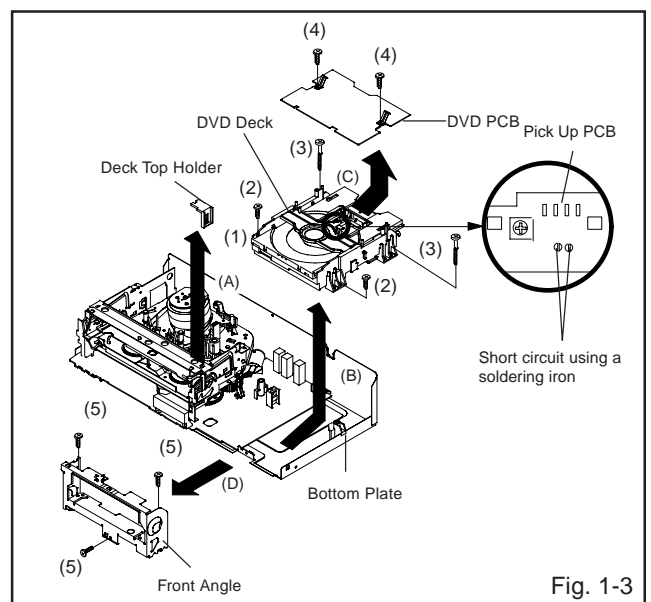

Fig. 1-3
1-3: DVD DECK/DVD PCB (Refer to Fig. 1-3)
1. Short circuit the position shown in Fig. 1-3 using a soldering iron. If you remove the DVD Deck with no soldering, the Laser may be damaged.
2. Unlock the support (1) and remove the Deck Top Holder in the direction of arrow (A).
3. Remove the 2 screws (2).
4. Remove the 2 screws (3).
6. Remove the DVD Deck in the direction of arrow (B).
8. Remove the 2 screws (4).
9. Remove the DVD PCB in the direction of arrow (C).
10. Remove the 3 screws (5).
11. Remove the Front Angle in the direction of arrow (D).